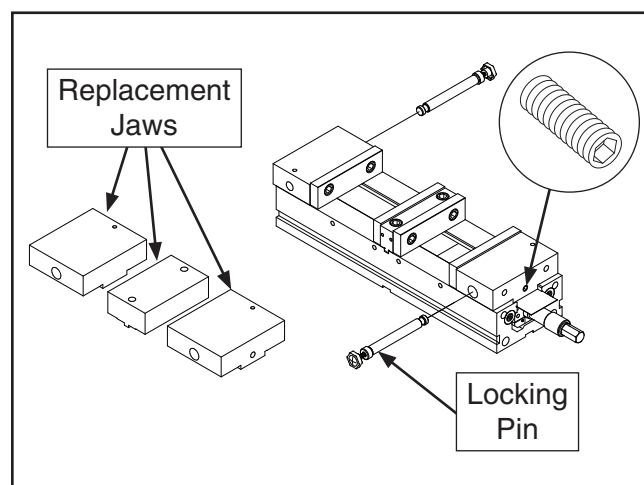

Figure 7. Changing jaws.
1. Remove locking pin from side of desired jaw and remove set screw used to adjust jaw against leadscrew nut (see **Figure 7**). Lift jaw directly up to remove.